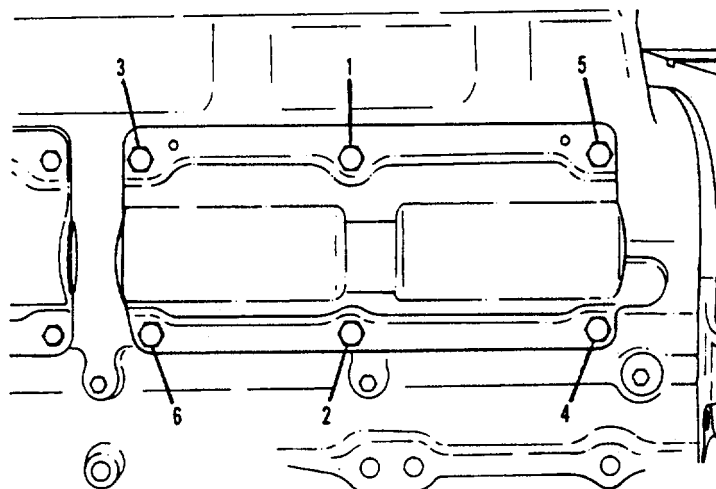

FIGURE 3-23. Cam Follower Housing Torque Sequence.
- (1) Install the push rods (1) in the cam follower socket (2) and position cover (6).
- (2) Install six capscrews (5) in each cam follower housing (6).
- (3) Tighten the capscrews in the sequence shown in Figure 3-23 to the following values.